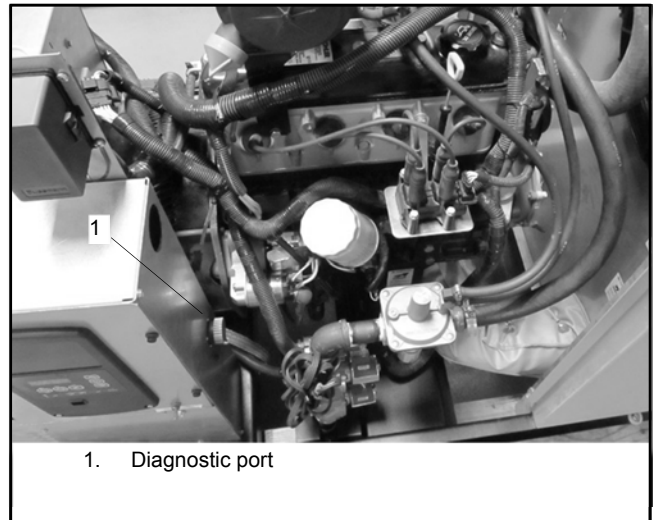

Figure 2-1 Diagnostic Port Location
3. Use a Kvaser cable, Kohler part number GM95122, to connect from a laptop with Spectrum software to the diagnostic port on the generator connection box. See Figure 2-1 Diagnostic Port Location.